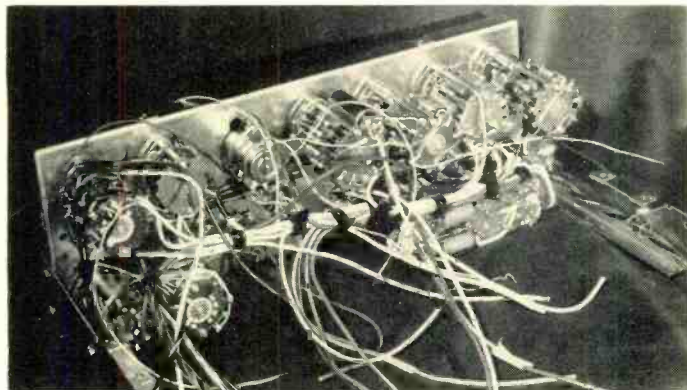

Fig. 2. Rear view of the front section of the "A" after 24 hours of construction time. Total time required was 29 hours.
The construction project is massive, to say the least. The front panel of the completed unit can be seen on page 37, but Fig. 2 shows a rear view of the front panel at the completion of 24 hours of work—the total time required was 29 hours. There are just under 800 separate instruction steps, and many of these consist of several individual operations. For example, item 34 on page 28 says: "Slip a 1/2" piece of black sleeving over one end of a 13 1/2" green shielded wire. Strip 1/2" of outer insulation and cut off shield. Strip 1/4" of inner conductor and connect to S1C-2 (NS). Push sleeving up to lug. Strip 1" of outer insulation from the other end, twist and tin shield. Strip 1/4" of inner conductor, tin and leave free." Thus it can be seen that the 800 operations are really more like 2000.